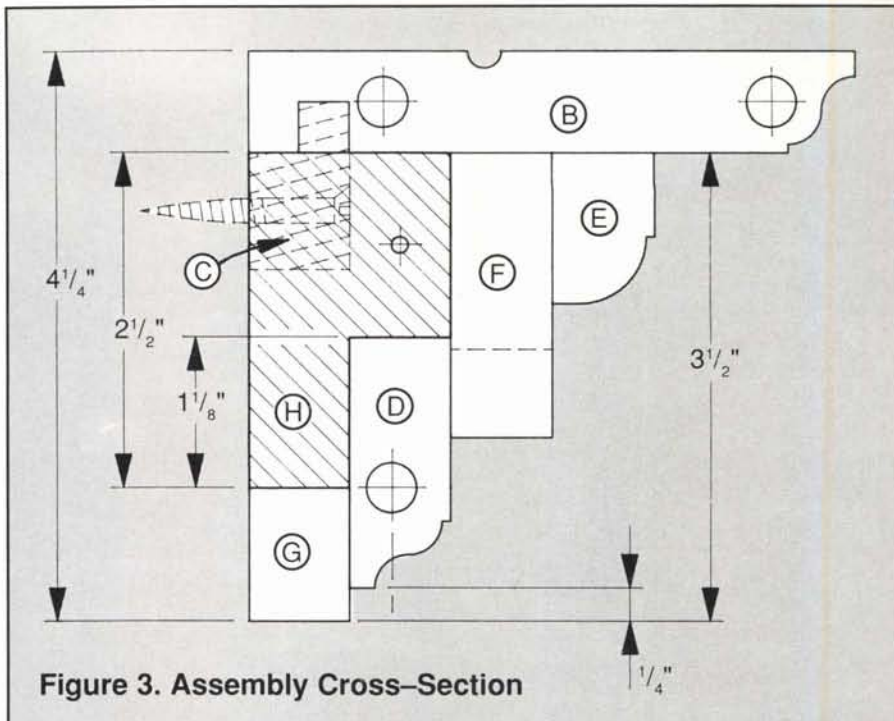

Figure 3. Assembly Cross-Section
ets (A) as shown in Figure 3. Lay the shelf upside down on a smooth, clean work surface, and align the inserts (H) flush with either end. Position moulding piece (E) and support (F), which you've already glued together, against the shelf and inserts. Check the fit. Apply glue sparingly to the mating surfaces and clamp the parts together. Then fit moulding piece (D) and support (G) into position; glue and clamp them in place. Once the glue has set, lightly sand the entire subassembly.